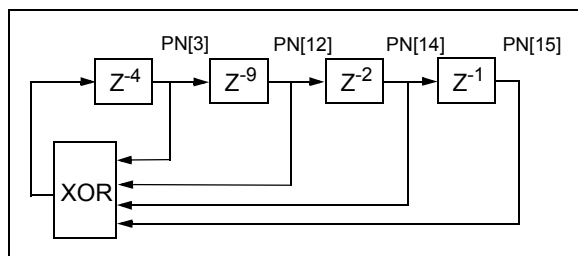

FIGURE 4-26: Block Diagram of 16-Bit LFSR for Pseudo-Random Number (PN) Sequence for Output Test Pattern.
4.12.13.1 Pseudo-random Number (PN) Sequence Output
When TEST_PATTERNS<2:0> = 111, the device outputs a pseudo-random number (PN) sequence which is defined by the polynomial of degree 16, as shown in Equation 4-9. Figure 4-26 shows the block diagram of a 16-bit Linear Feedback Shift Register (LFSR) for the PN sequence.
The valid synchronized output is available when all devices complete their own internal calibration. For this reason, the user has two options for the synchronized output: (a) monitor the calibration status of individual devices and wait until all devices complete calibrations or (b) use an external AND gate as shown in Figure 4-26. Master and all Slave devices are synchronized when the AND gate output toggles to "High".